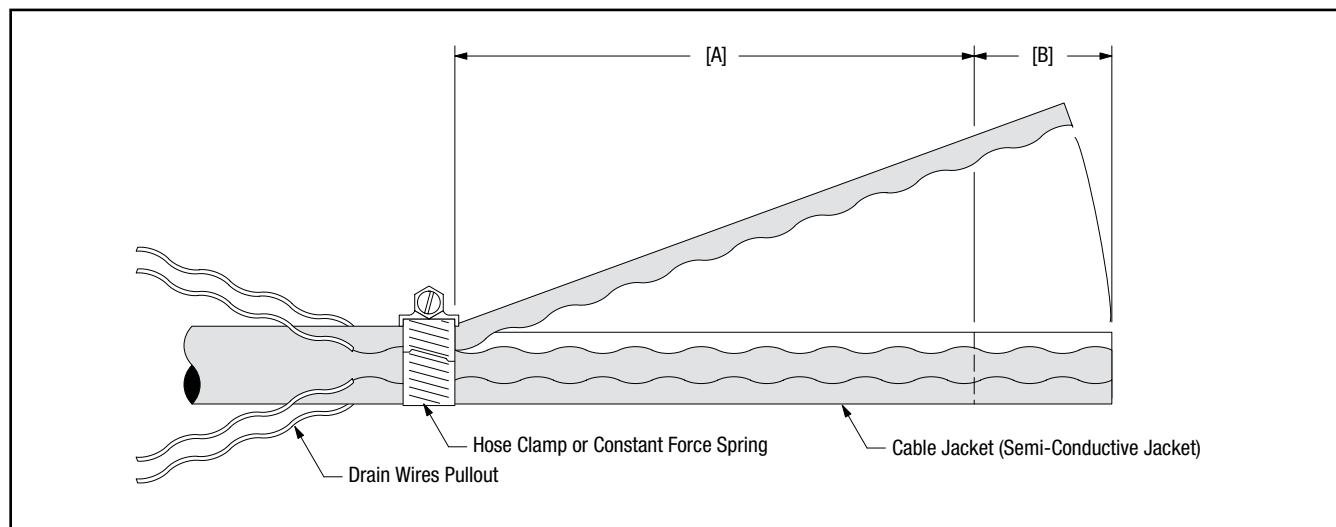

Figure 17
14.2 Remove drain wires from semi-con jacket for distance [A] + [B] + 1" (25 mm), as shown in *Figure 17* and *Table 4*. **BE SURE TO ALLOW FOR DEPTH OF TERMINAL LUG Dimension [B].**
14.3 Install hose clamp, or constant force spring, at dimension [A] + [B] and cut 80% through jacket (*Figure 17* and *Table 4*).